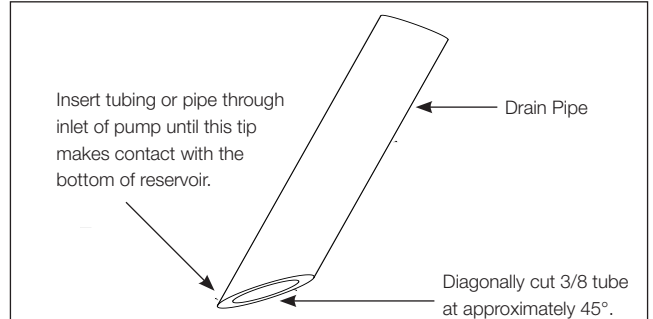

Figure 2 - Modification of pipe end to prevent blockage
- A. To prevent pipe blockage in the reservoir, modify the end of pipe or tubing as illustrated in Figure 2.